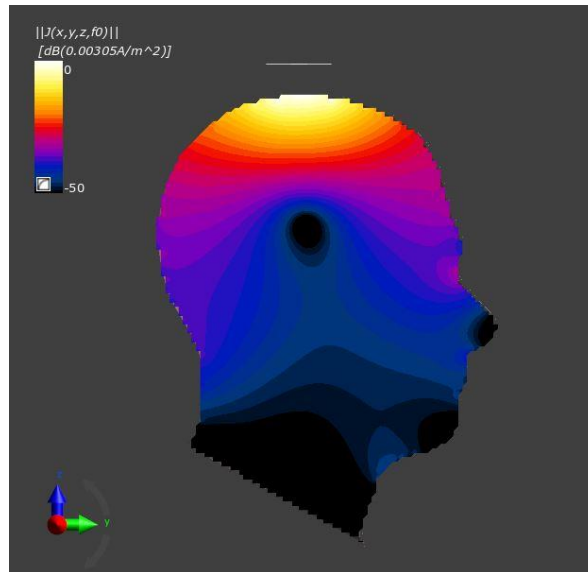

Fig. 6. Absolute J-field distribution.
5. Press the *Refresh* button at the top of the *Properties* window. The plot should look like in fig.6